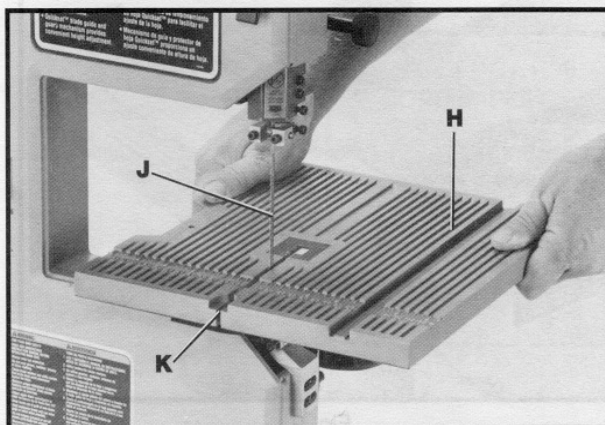

Fig. 4
3. Place table (H) Fig. 4, onto band saw frame, making sure the blade (J) travels through the slot (K) in the table as shown.